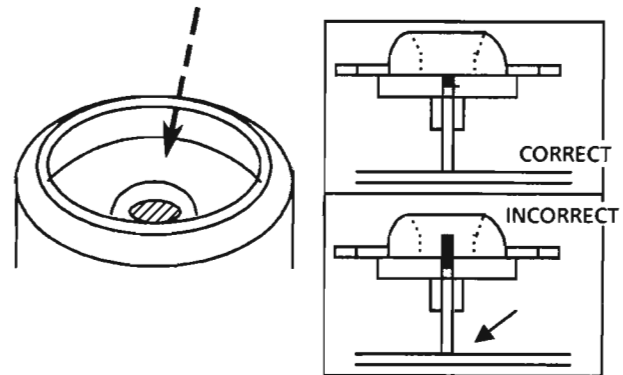

Fig. 9
4. After inserting the turntable, bond the motor shaft and turntable together (at the section marked by an arrow in fig.9 on the left below).
5. Use "LOKTTITE" #460 bonding agent, and apply as little as possible. Take care not to allow any excess bonding agent to get onto the turntable. Be extremely careful not to allow bonding agent to adhere to the motor bearings (the section marked by an allow in fig.9 on the right).